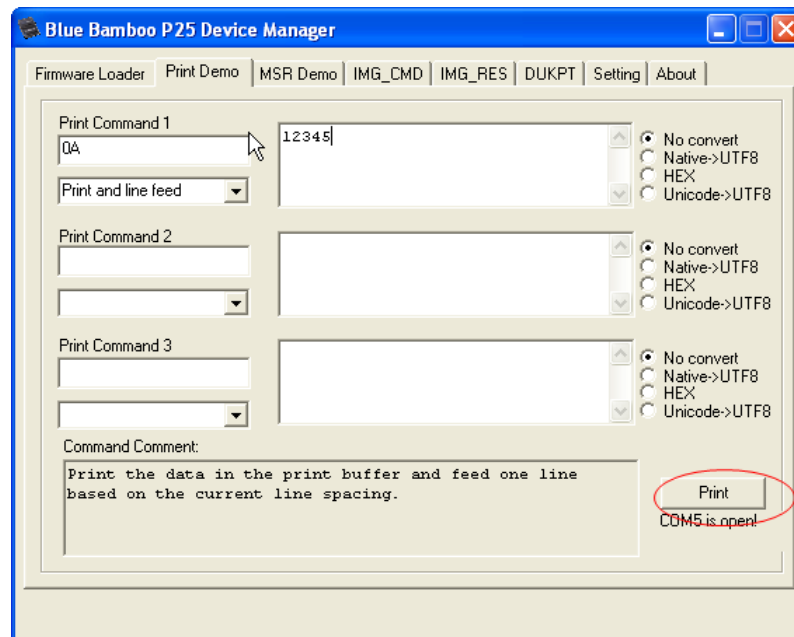

Figure 25
- c. Click **Print** in the bottom right as shown in Figure 25, the Data entered in Data field will be printed out.